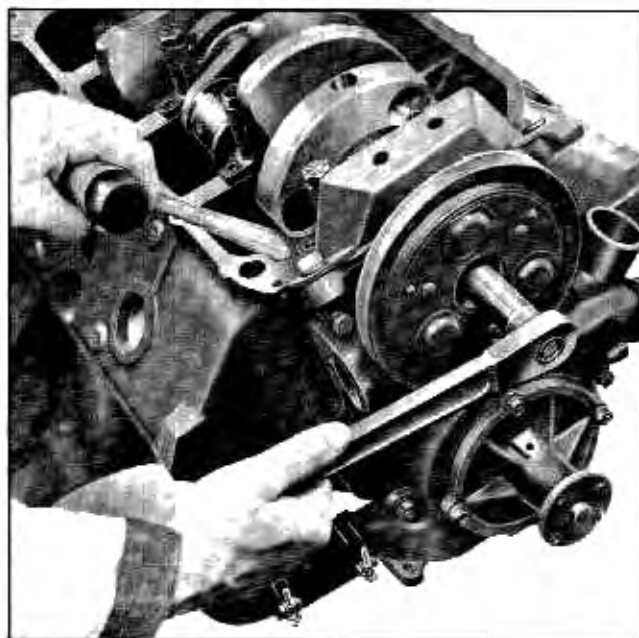

Fig. 6-38 Holding Crankshaft to Remove Harmonic Balancer
29. Remove harmonic balancer attaching bolt and washer, and slide balancer off crankshaft. A hammer handle placed between the block and the front counterweight of the crankshaft will hold the crankshaft while attaching screw is being removed (Fig. 6-38).
31. Remove fuel pump eccentric from camshaft. Place hammer handle between block and front crankshaft counterweight to hold crankshaft (Fig. 6-38).